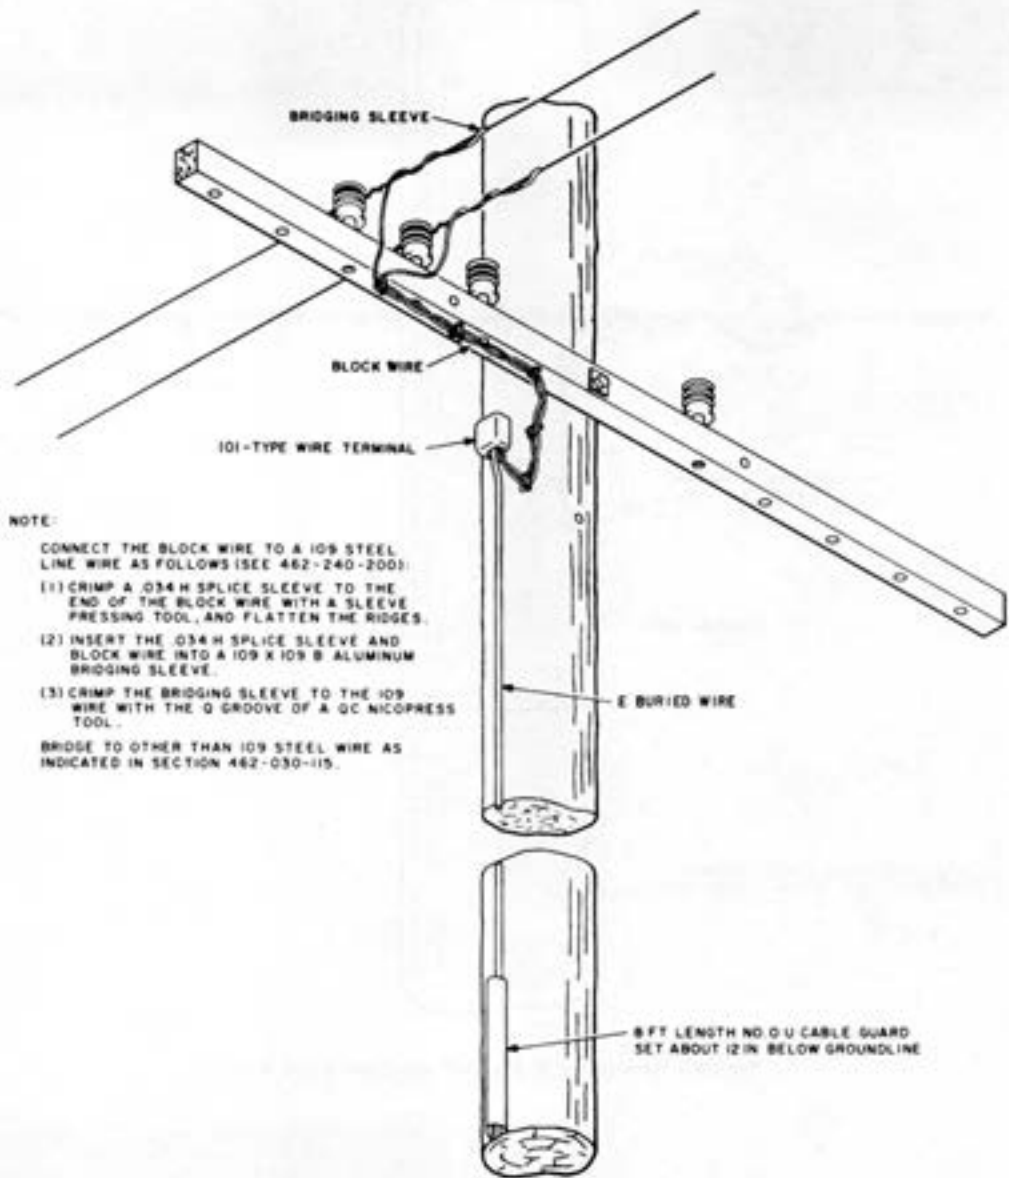

Fig. 31—Termination of E Buried Wire and Open Wire
10.02 At the junction with open wire, E buried wire can be brought up a pole and terminated in a 101B2 wire terminal. The metallic shield should be cut off and taped as shown in Fig. 26. Block wire must be used between the protector and the open wire. At the groundline, the wire should be covered with an 8-foot length of No. 0 U cable guard. A typical installation is shown in Fig. 31.